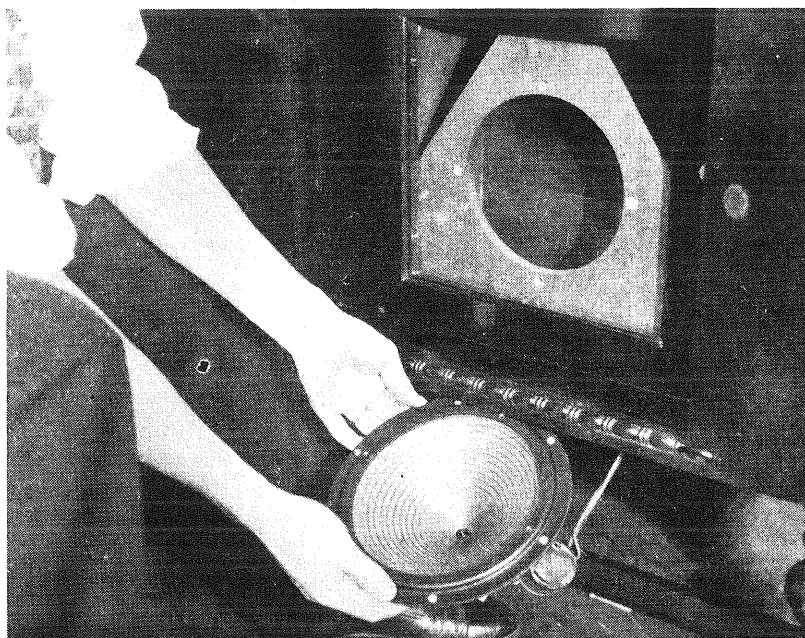

Figure 23—Removing the reproducer from the cabinet
- (e) The loudspeaker unit may now be removed through the bottom of the cabinet (Figure 23). The cord should be released from its terminal posts on the filter unit and the speaker removed to a convenient place for inspection and repair.
(4) MAKING REPLACEMENTS ON RCA LOUDSPEAKER 100A